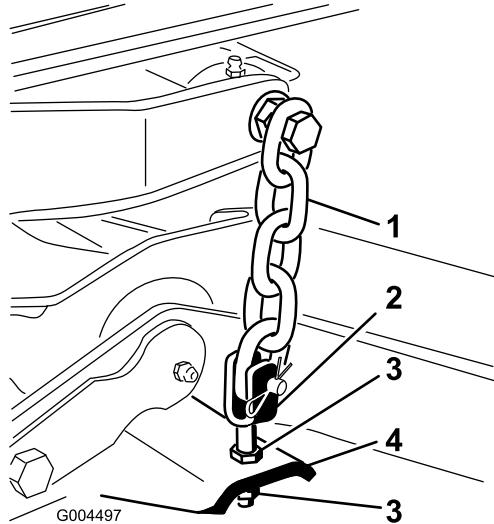

Figure 78
- Adjust the jam nuts securing the rear deck yokes/chains to raise the rear of the deck so that the blade pitch is set to 5/16 inch (8 mm) (Figure 78).